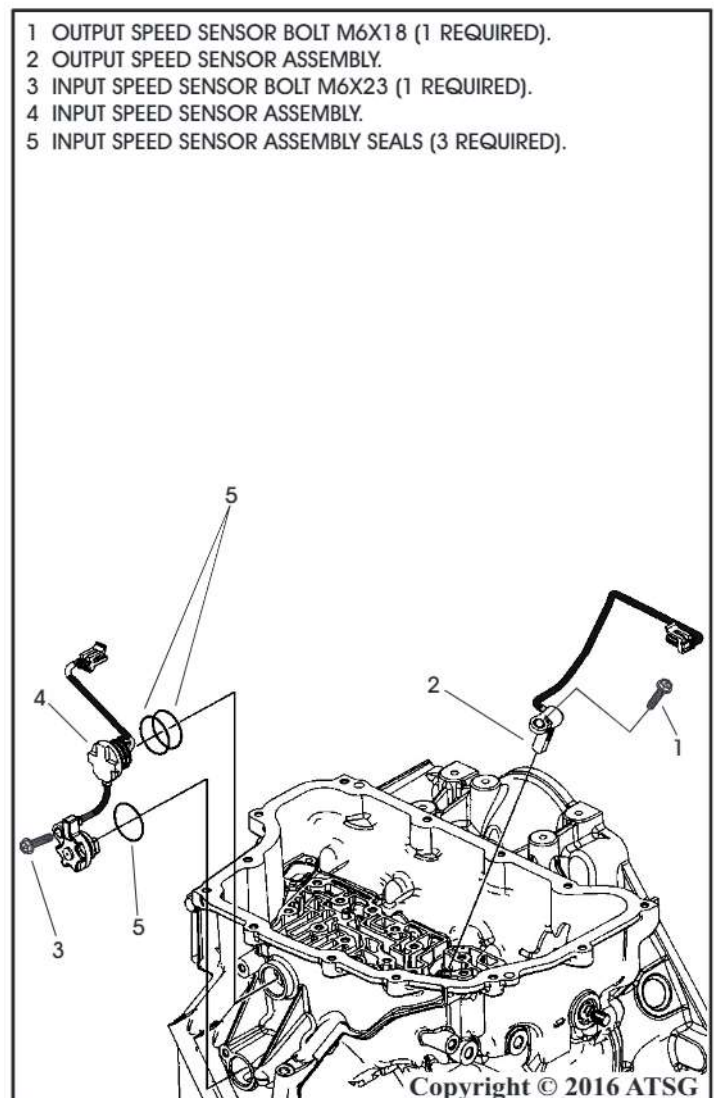

Figure 57
27. Remove output speed sensor bolt and output speed sensor assembly as shown in Figure 57.
28. Remove input speed sensor bolt and input speed sensor assembly as shown in Figure 57.